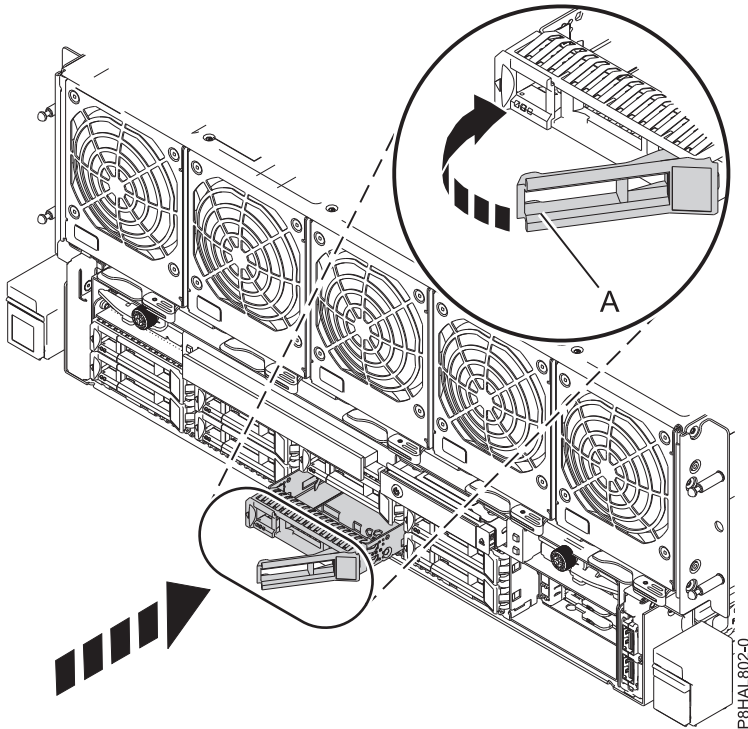

Figure 3. Installing a disk drive in an 8408-44E or 8408-E8E system
3. Unlock the drive bay handle (A) by pressing it and pulling it out toward you. If the handle is not all the way out, the drive does not slide into the system. See Figure 3 on page 6.
5. Slide the drive all the way into the system, and push the drive bay handle (A) in until it locks, as shown in Figure 3 on page 6.